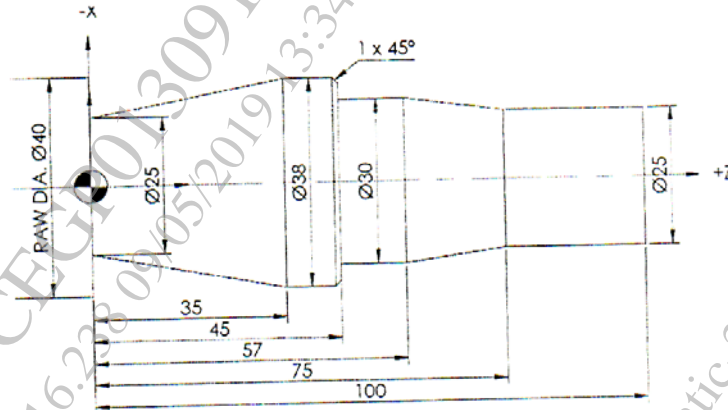

Fig. 2
- b)** Write CNC program using G and M codes to turn the component shown in fig. 2 having Stock size is $\varnothing 40\text{mm}$. Use canned cycles wherever applicable. Assume suitable data for speed and feed. [10]